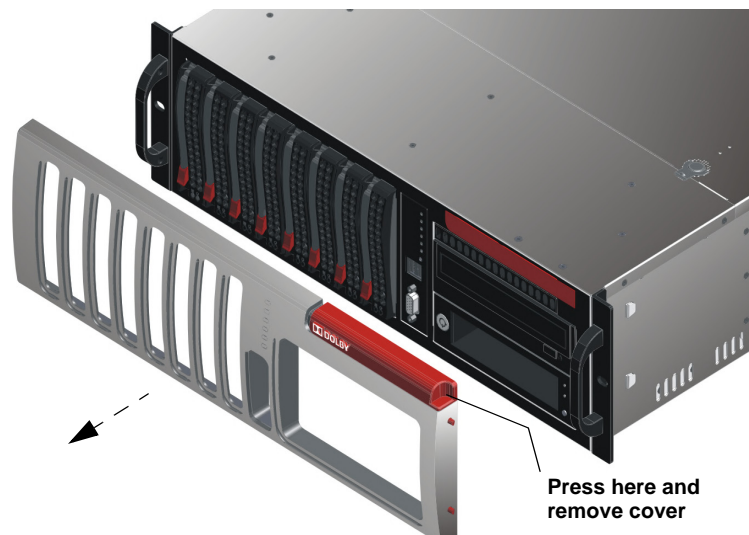

Figure 2 Remove DSS200 Front-Panel Cover
2. Remove the front-panel cover by placing a finger on the cover's indented area (in the upper-right corner), while pressing inward (to the left) and gently pulling the cover out of the front panel (see Figure 2).